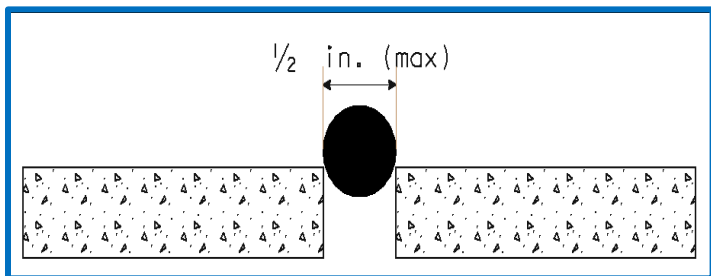

Figure 7 Surface Openings
- On pedestrian access route joints and gratings, surface openings must not permit passage of a sphere larger than $\frac{1}{2}$ inch. Place horizontal surface openings so that the long dimension is perpendicular to the dominant direction of travel. (See Figure 7.)